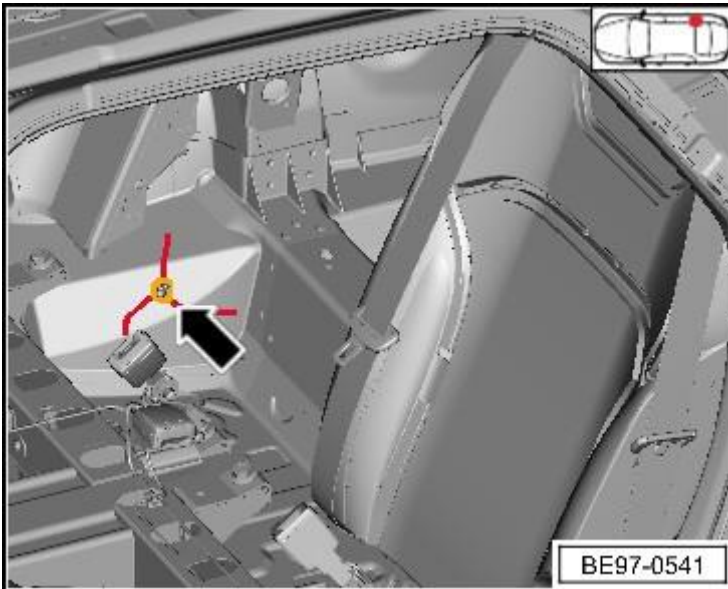
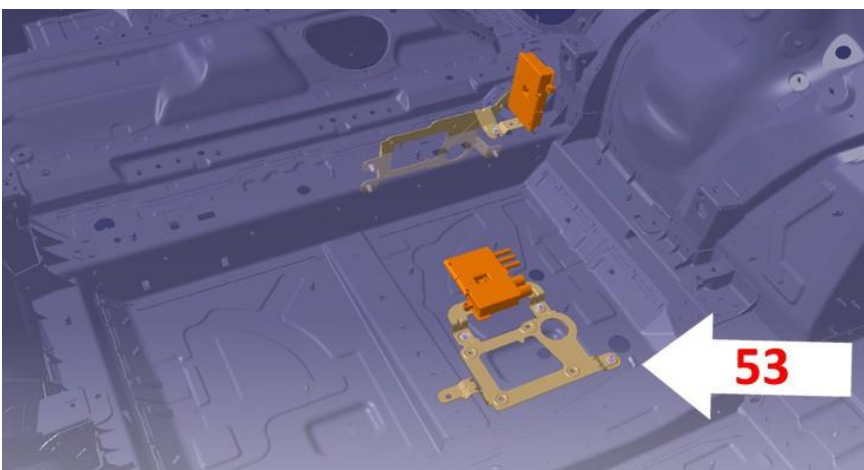

Figure 3
Figure 4
IMPORTANT: Figure 3 shows the earth point (730) on 4/5 seat specification vehicles -Figure 4 shows the earth point location (53) for 7 seat specification vehicles
- **4 and 5 seat variants** - Referring Figure 3 and the Repair manual wiring diagrams locate earth point number 730
- **7 seat variants** - Referring Figure 4 - Locate earth point number 53 (Situated to the right hand side of the rear floor panel) to gain access remove the rear bench assembly - 3rd row - Refer to Repair manual Rep.Gr 72 Rear bench seat assembly - 3rd row (7 seat) - to remove and fi